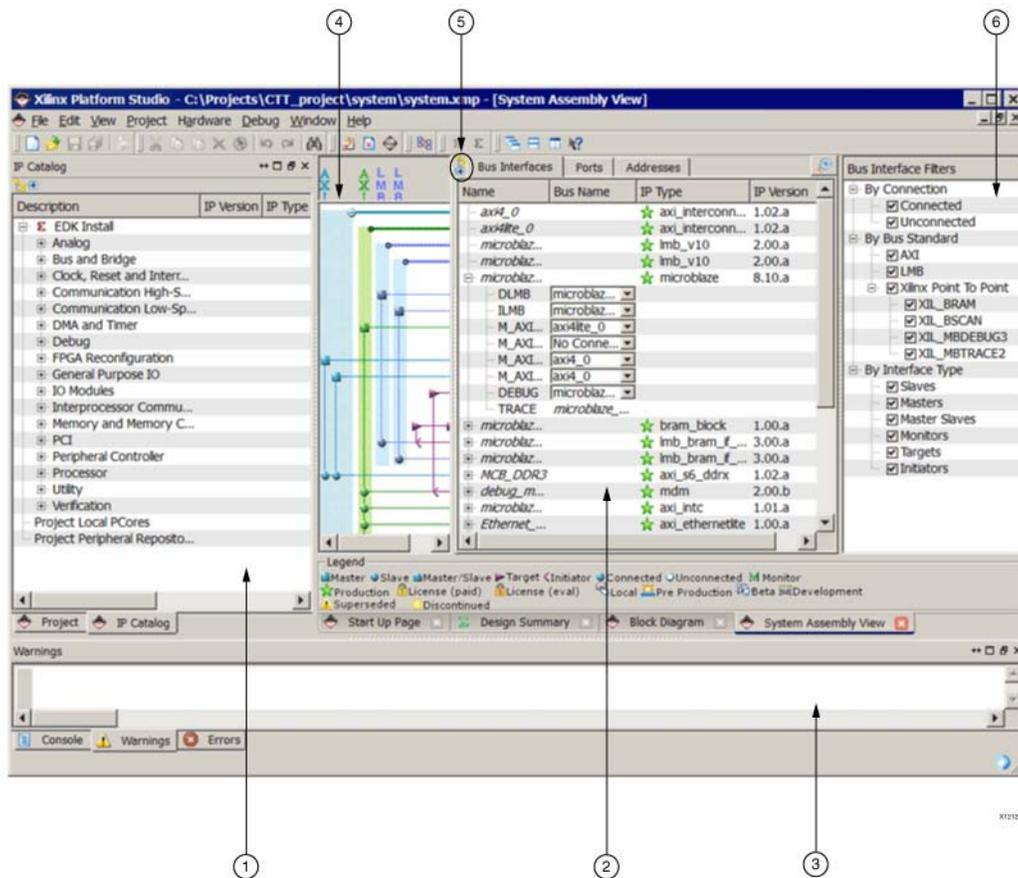

Figure 3-1: XPS Project Window
The IP catalog tab (shown in Figure 3-1), lists information about the IP cores, including:
7. At the top left of the IP Catalog window, note the two buttons (identified as item 5 on Figure 3-1, page 18). Click them and observe changes to the IP catalog.
With the Bus Interfaces tab selected, you'll see the Connectivity Panel (label 4 in Figure 3-1, page 18), which is a graphical representation of the hardware platform connections. You can hover your mouse over the Connectivity Panel to view available bus connections.
XPS provides filters that you can use to change how you view the Bus Interfaces and Ports in the System Assembly View. The filters are listed in the Filters pane (label 6 in Figure 3-1, page 18) when the Bus Interfaces or Ports tabs are selected. Using these filters can unclutter your connectivity panel when creating a design with a large number different buses.
The System Assembly View provides two buttons that change how the data is arranged (label 5 in Figure 3-1, page 18). With these buttons, you can sort information and revise your design more easily.
The Console window (label 3 in Figure 3-1, page 18) provides feedback from the tools invoked during run time. Notice the three tabs: Console, Warnings, and Errors.